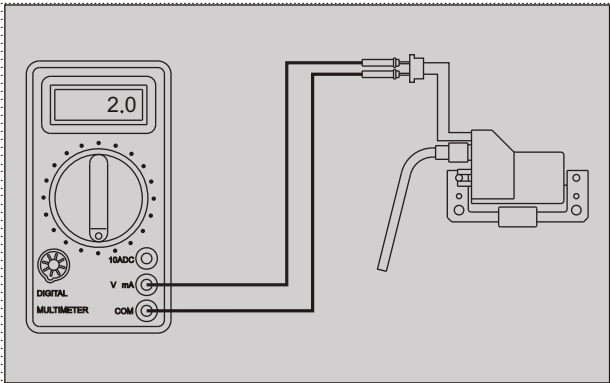

Fig. 5.10
- Check resistance of the primary winding by connecting '+ve' lead of multimeter to orange wire (Or) and '-ve' lead to blue wire (Bl). (Fig. 5.10)